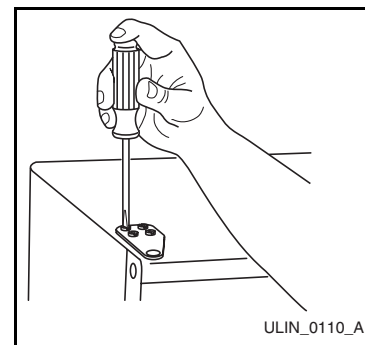

Figure 19
- Place door on lower hinge pin. Align flat edge of top hinge with outer edge of unit and fasten upper hinge to unit (four screws) (**Figure 19**). Partially tighten screws until door is aligned.